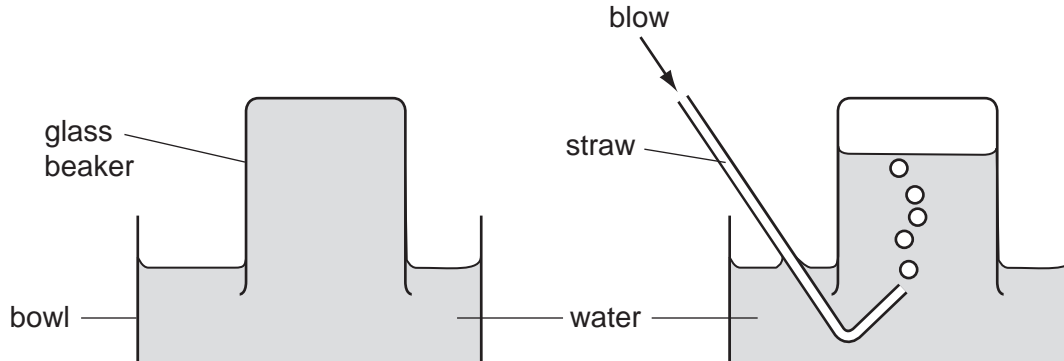

Fig. 1.2
- The 500 cm³ beaker was filled with water, inverted and placed into a bowl of water (see Fig. 1.2).